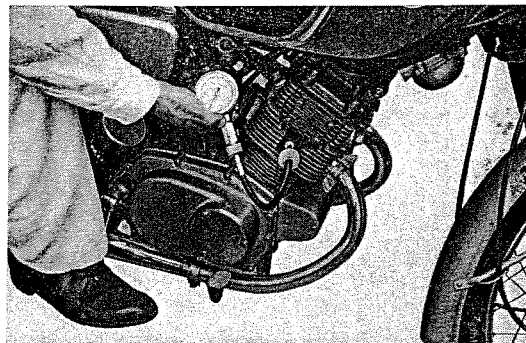

Fig. 6.5 Correct compression pressure
- (1) If the throttle and choke are not wide open, the amount of pressure registered on the gauge will be small and not representative.
- (2) The registered pressure will increase with every kick of the starter. The pedal should be kicked until the compression gauge registers a maximum reading.
- (3) Make sure that the engine is warm when gauging the compression, otherwise the indicated pressure will not be true compression.
- e. The compression pressure should be from (128 to 149 psi) 9.0 to 10.5 kg/sq.cm. (Refer to Fig. 6.5)